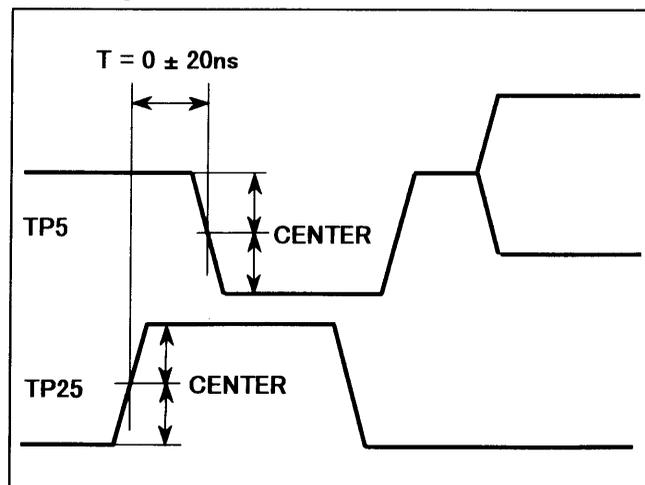

Figure 5
3. Adjust VR7 so that the "T" becomes as shown in Figure 5